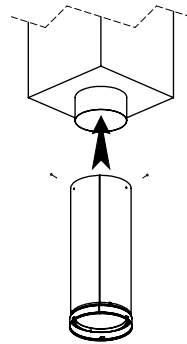

Figure 3
• **Built In Flue Extension (Figure 3)**